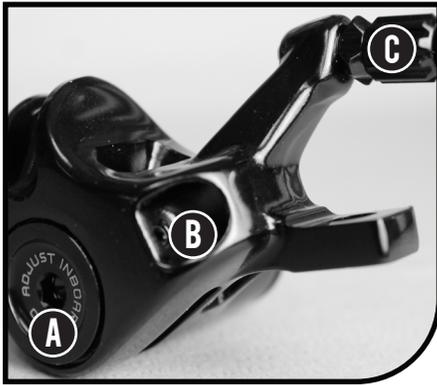
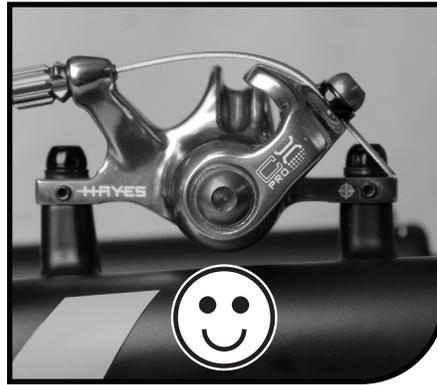
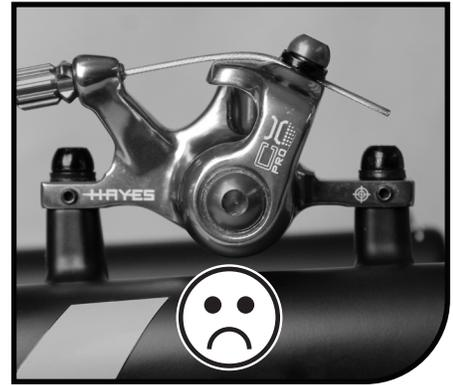

FIG. 6
FIG. 7
FIG. 8
1. Using a 2mm hex wrench, unthread the inboard pad adjuster set screw (**FIG.6, B**). Use a 5mm hex wrench to adjust the inboard pad adjuster (**FIG.6 A**). Tighten down the set screw until it hits the inboard pad adjuster.
2. Adjust the outboard pad using the barrel adjuster (**FIG.6, C**). If the barrel adjuster is unthreaded all the way, release cable tension and rethread the barrel adjuster as shown in **FIG.6, C**. Loosen the caliper mount bolts, reposition the caliper to set the outboard pad gap, follow step 1 to set the inboard pad gap, and finally set the cable tension. Make sure the caliper arm is fully opened (**FIG. 7**). **DO NOT** preload the caliper arm (**FIG. 8**) while setting cable tension.